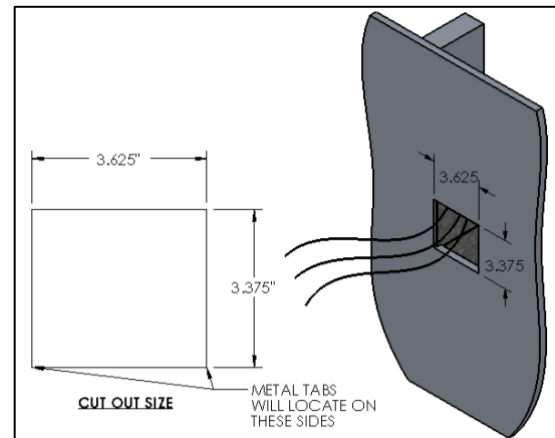

FIG. 15- J-BOX ASSEMBLY AND CEILING CUT OUT
8. Attach the desired ceiling covering and finish accordingly as shown in FIG. 15.